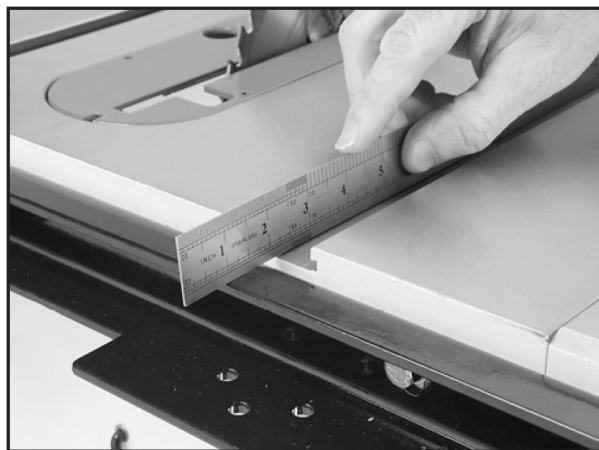

Fig.9: check the location of rear rail
A. install the rear rail , front rail, tube, (extension table) as breakdown, Before tightening the fasteners,check to make sure the top edge of rear rail is flush with the lowest edge of both T-bolts, so the miter gauge will slide smoothly when installed later. **as Fig.9**